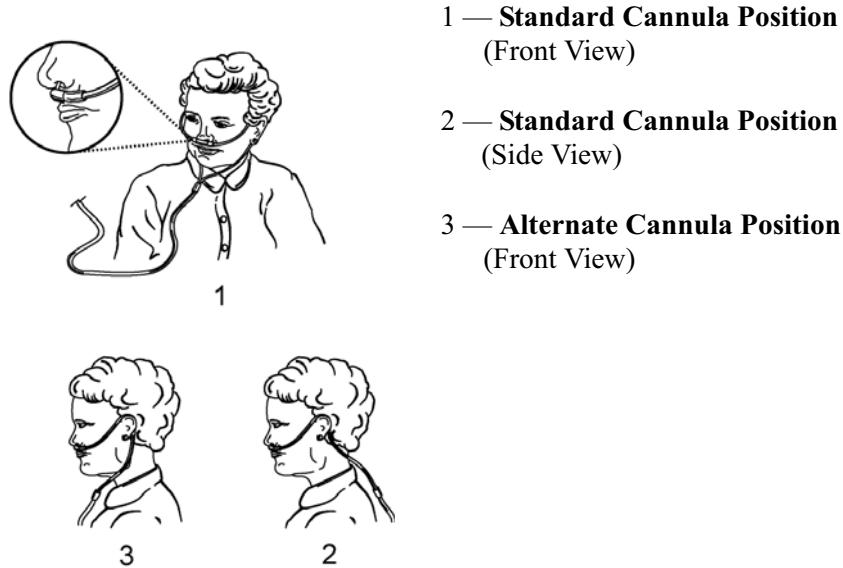

Figure 6: Attaching a Nasal Cannula
2. Attach the *Oxygen Tubing* from the cannula to the *Breathing Oxygen Supply* connection or to the humidifier connection, as appropriate. Adjust the cannula to your face (Figure 6).